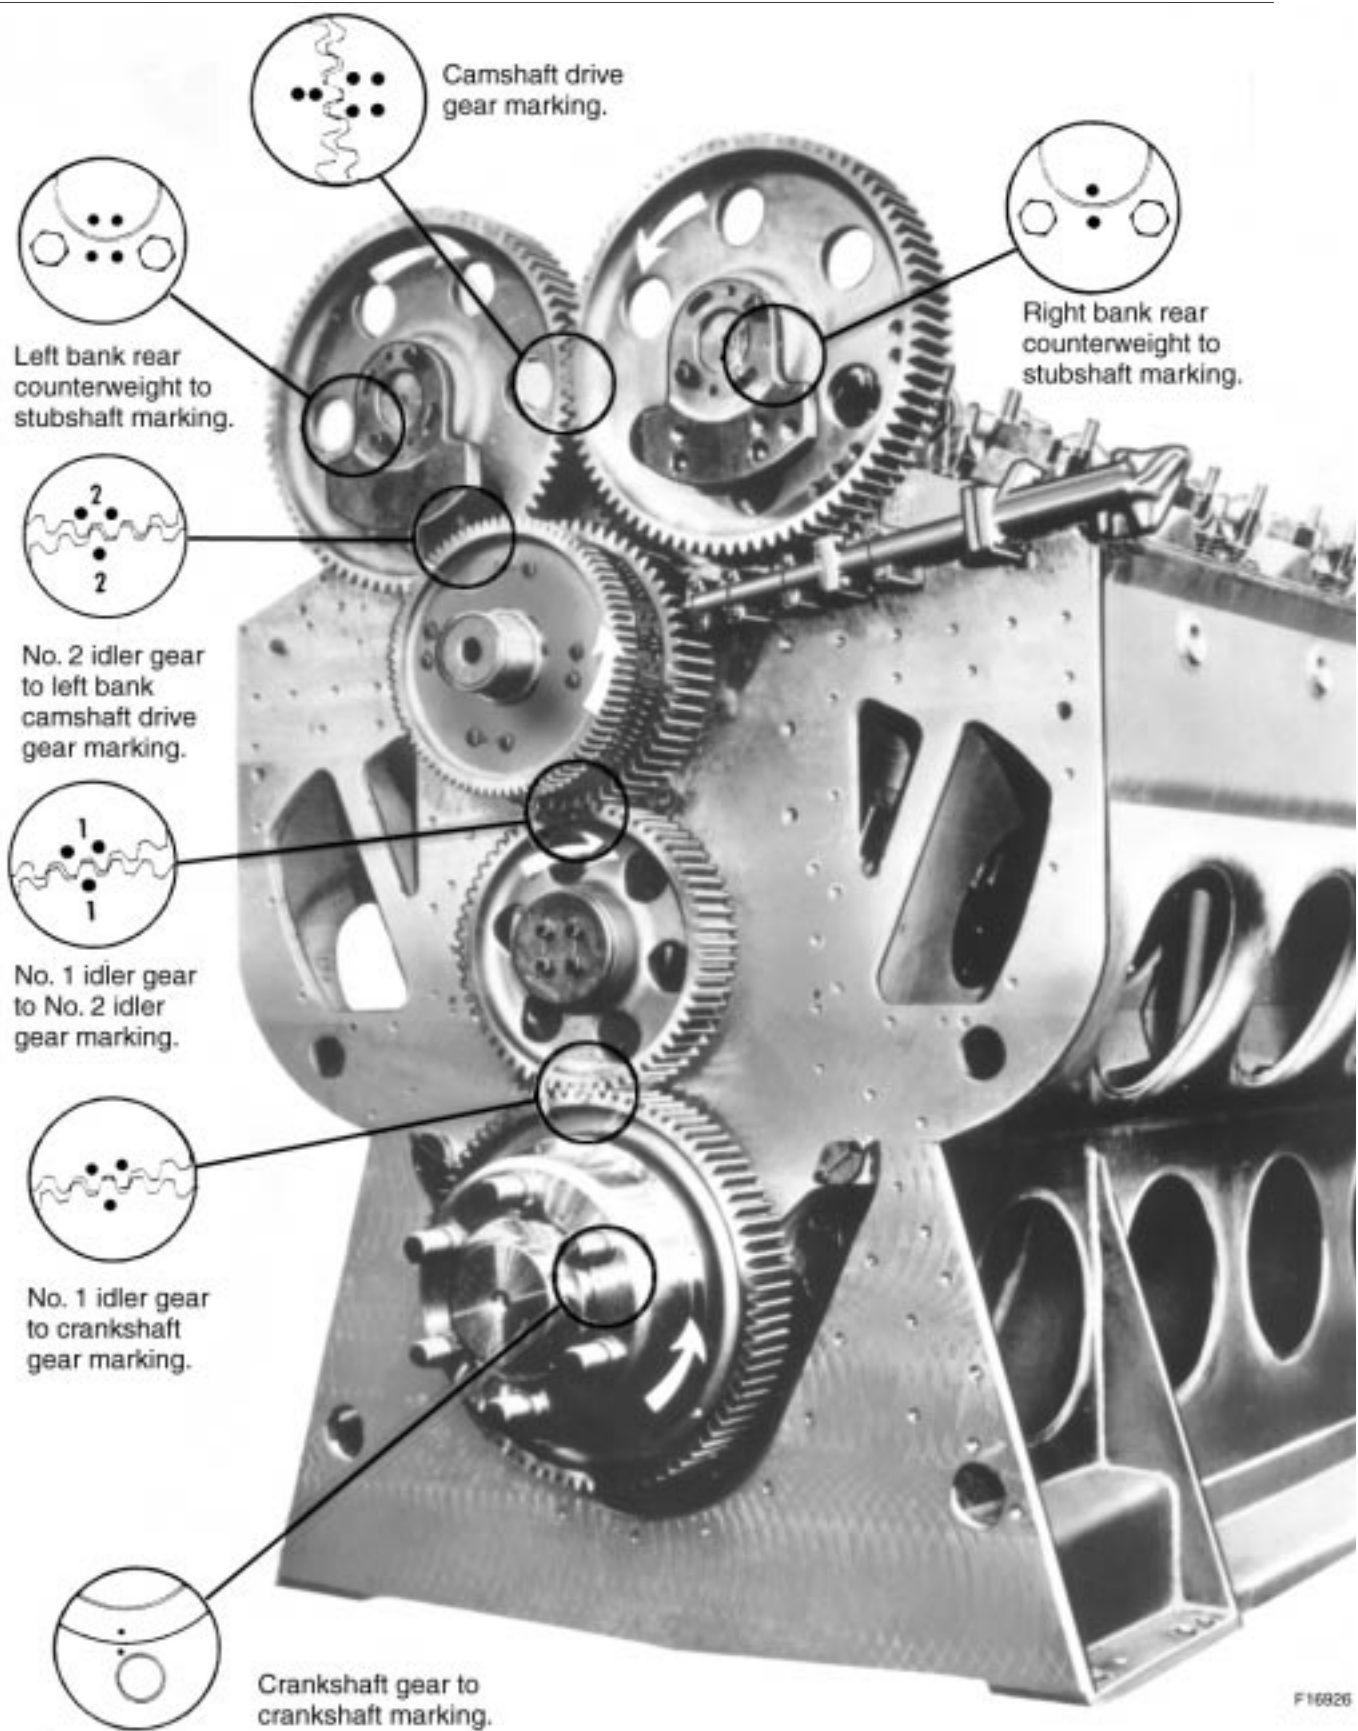

Figure 7-24. Typical Camshaft Gear Train Marking
16. After timing has been completed, the relative position of the mating parts should be identified similar to the method used on new engines, as shown in Figure 7-24., on page 7-42. The mating parts are marked with No. 1 piston at top dead center. This completes valve timing procedures.